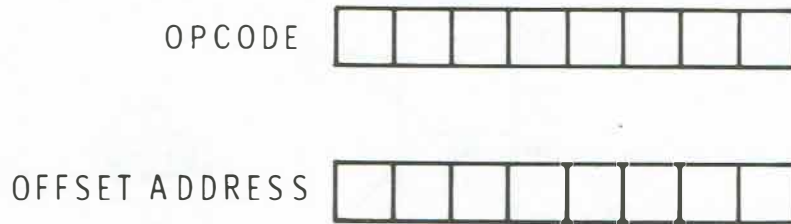

Figure 6-20
**Instruction Format**—The format of an instruction that uses indexed addressing is shown in Figure 6-20. Notice that this is a 2-byte instruction. The first byte is the opcode, and the second is called an offset address. The offset address is an **unsigned** 8-bit binary number. It is added to the contents of the index register to determine the address at which the operand is located.